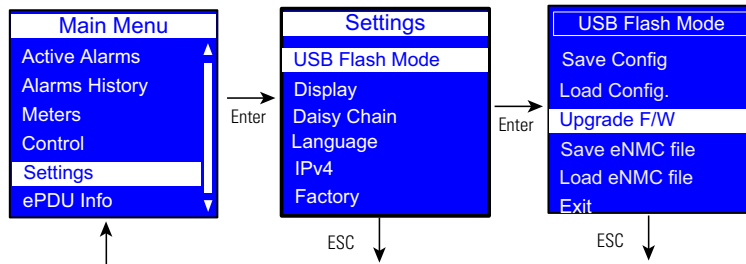

Figure 76. Example Select Upgrade Firmware
- Select Upgrade FW and click **OK** to confirm the upgrade (see Figure 76). The eNMC module gets the file from the USB drive.